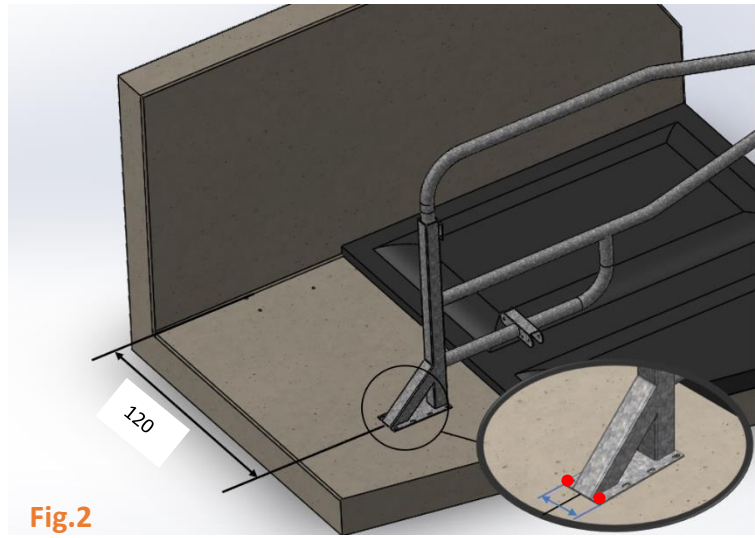

Fig.2
- Mark the widths between each side bar: first mark at 120cm* (center of the mounting plate) then every 120cm*. Fig.2/3
- Stretch the line as shown below (in blue on the diagram). Fig.2